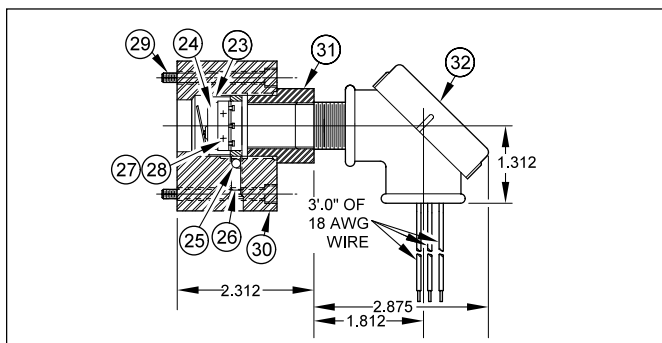

Figure 7. Switch Assembly for Electric Lube Sentry
2. If adjustment is required, remove the electrical connection housing, consisting of conduit elbow and cap, nipple, and adaptor by loosening and removing the adaptor, (Figure 7, Item 31) from the switch housing.